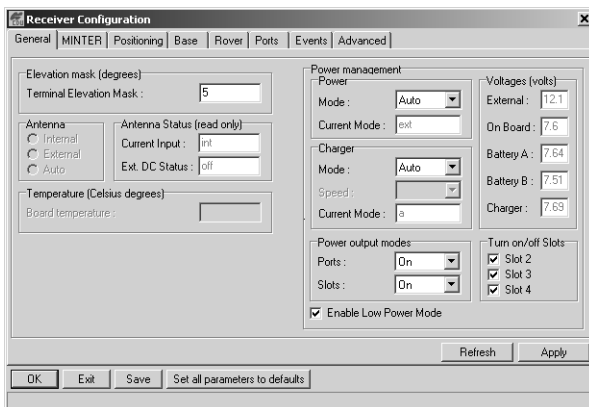

Figure 2-17. View Voltages Information
7. View the Voltages information (Figure 2-17).